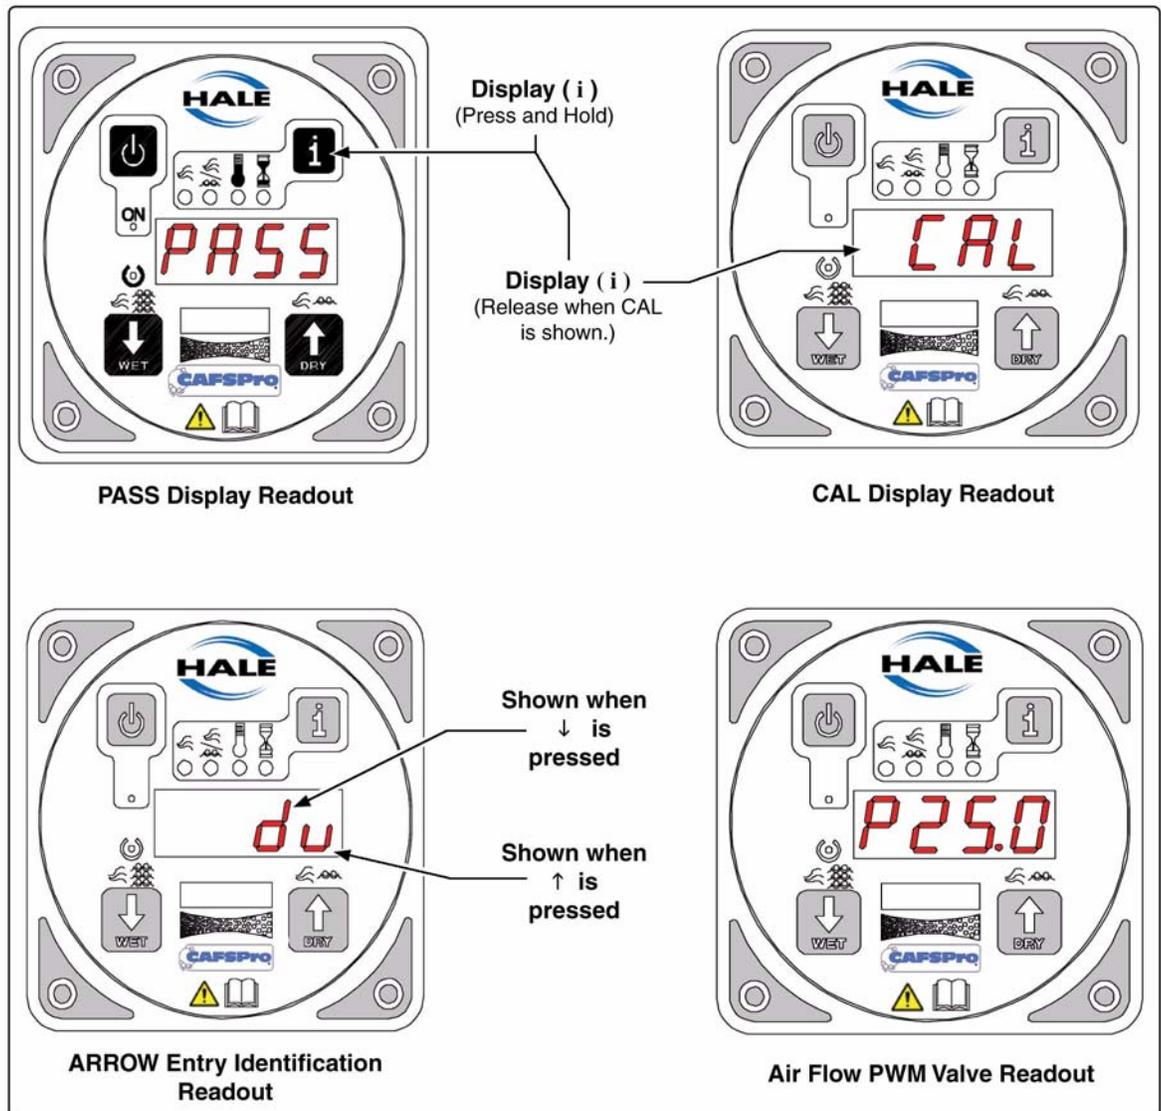

Figure 8-3: Sample CAFSPRO Display Readouts -1
3. While holding the DISPLAY (**i**) pad pressed, enter the user calibration password – (**↑ ↑ ↑ ↑**). (See Figure 8-3: ‘Sample CAFSPRO Display Readouts -1.’)
6. The display shows CAL for several seconds, followed by P25.0. The FLOW (🌀) LED also lights (Airflow PWM Value). (See Figure 8-3: ‘Sample CAFSPRO Display Readouts -1’ on page 63.)